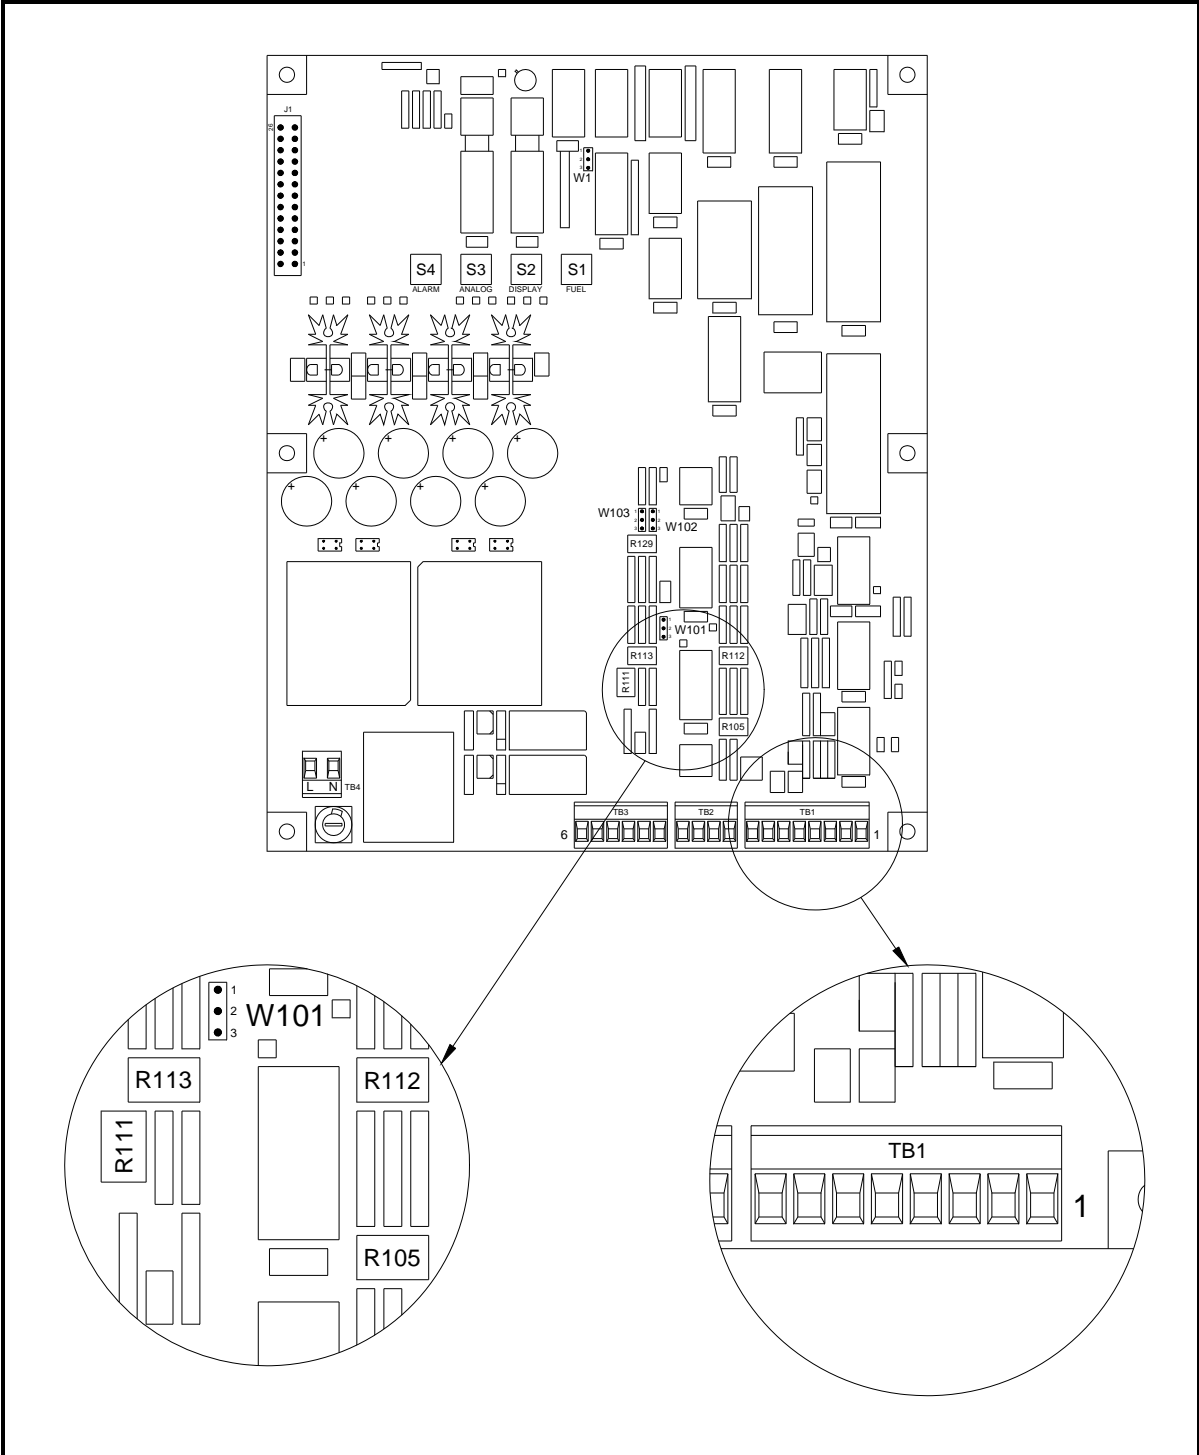

Figure 25: Display Electronics Console Circuit Board (Top View)
1. Locate terminal block TB1 in the Display Console (see Figure 25 on page 49).
If the 300D Display does not read 0 ppmv, adjust the trimmer potentiometer R111 on the 300D Display printed circuit board. Since R111 is very sensitive, adjustments should be made in small increments. Refer to Figure 25 on page 49 for the location of R111, and adjust it in the appropriate direction:
If the reading is incorrect, adjust trimmer potentiometer R105 on the 300D Display printed circuit board. This adjustment is not as sensitive as the zero adjustment with R111, and the R105 adjustments may be made in larger increments. Refer to Figure 25 on page 49 for the location of R105, and adjust it in the appropriate direction: